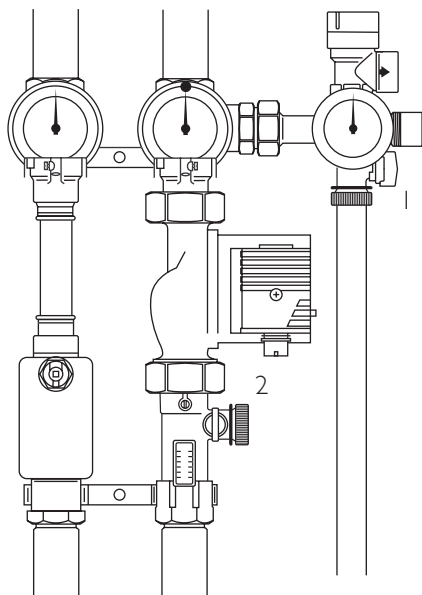

Fig. 4
c) If the pressure is too low you should pump additional heat transfer fluid into the system; the fill & drain valve on the safety group (Fig. 4 Item 1) needs to be opened for this purpose. When system pressure is correctly set, ensure the fill and drain valve is closed and remove filling hose from safety group.